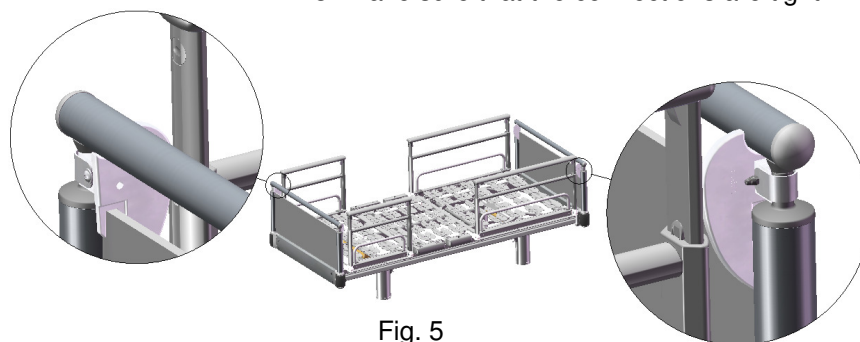

Fig. 5
8. Unscrew the flat mushroom head screw (9) and remove this, the union nut (10) and the clamp bracket (8).
9. Push the respective clamps (6/7) right and left onto HPL board (12) and push this onto the tube cap (11). Ensure that the clamp arms point inwards and that the notch of the clamp sits tightly on the HPL board to prevent this from twisting out of position (fig. 5).
10. Push the clamp bracket (8) over the tube cap (11) onto the clamp (6/7).
11. Push the flat mushroom head screw (9) through the clamp bracket (8) and the clamp (6/7) and fix this with the union nut (10).